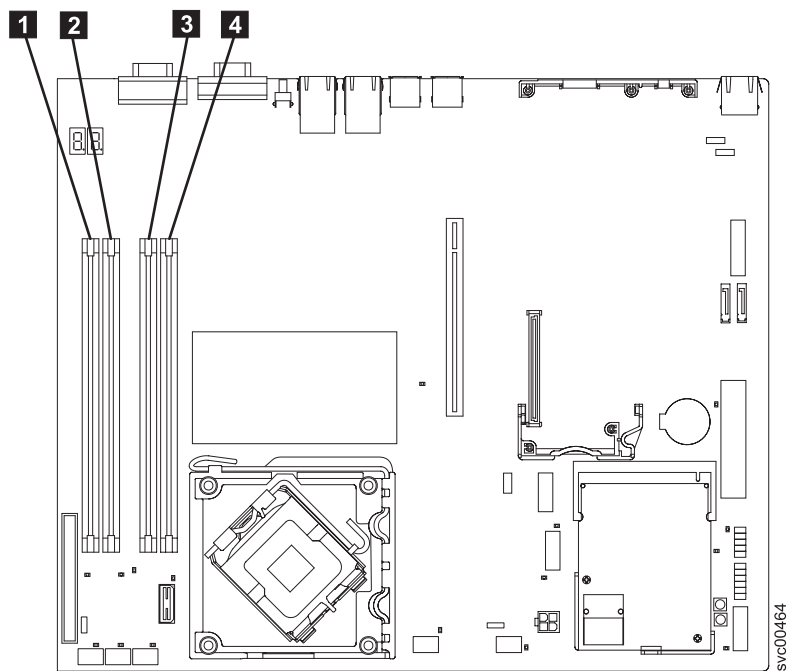

Figure 79. Locating the SAN Volume Controller 2145-8A4 memory modules
- SAN Volume Controller 2145-8A4: These modules are numbered **1** through **4**, as shown in Figure 79.